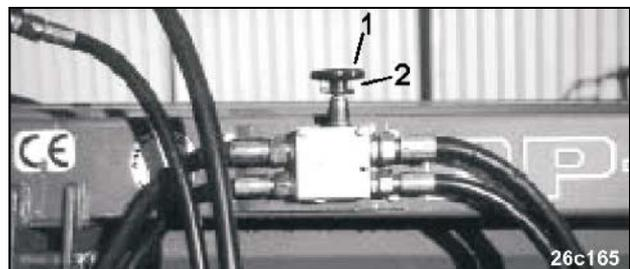
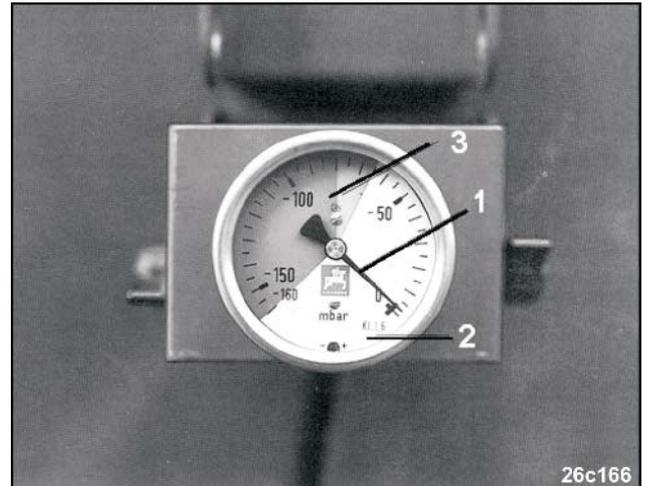

Fig. 169
Fig. 170
- the blower fan drive speed, which is set by turning the hand wheel (Fig. 169/1) on the pressure valve.
- Turn the hand wheel (Fig. 169/1) until the pointer (Fig. 170/1) of the pressure gauge (Fig. 170/2) has reached the green area (Fig. 170/3)
- Secure this hand-wheel setting with the aid of the counter nut (Fig. 170/2).